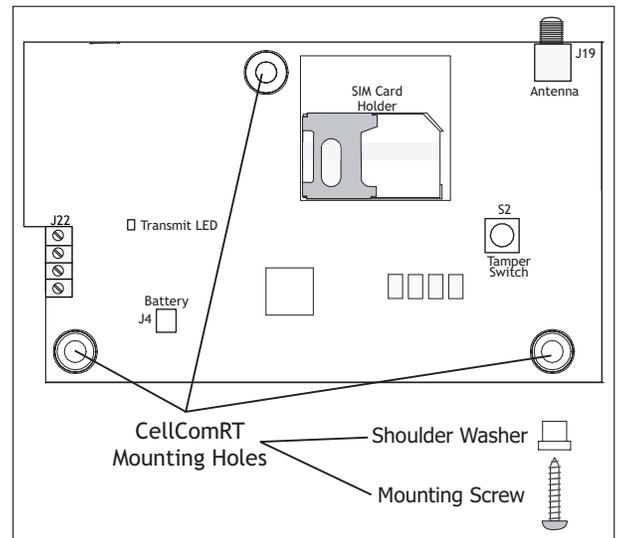

Figure 1: CellComRT PCB
2. With spring in place, mount the CellComRT on a flat surface that engages the tamper spring and closes the tamper. See Figure 1 for mounting hole locations.